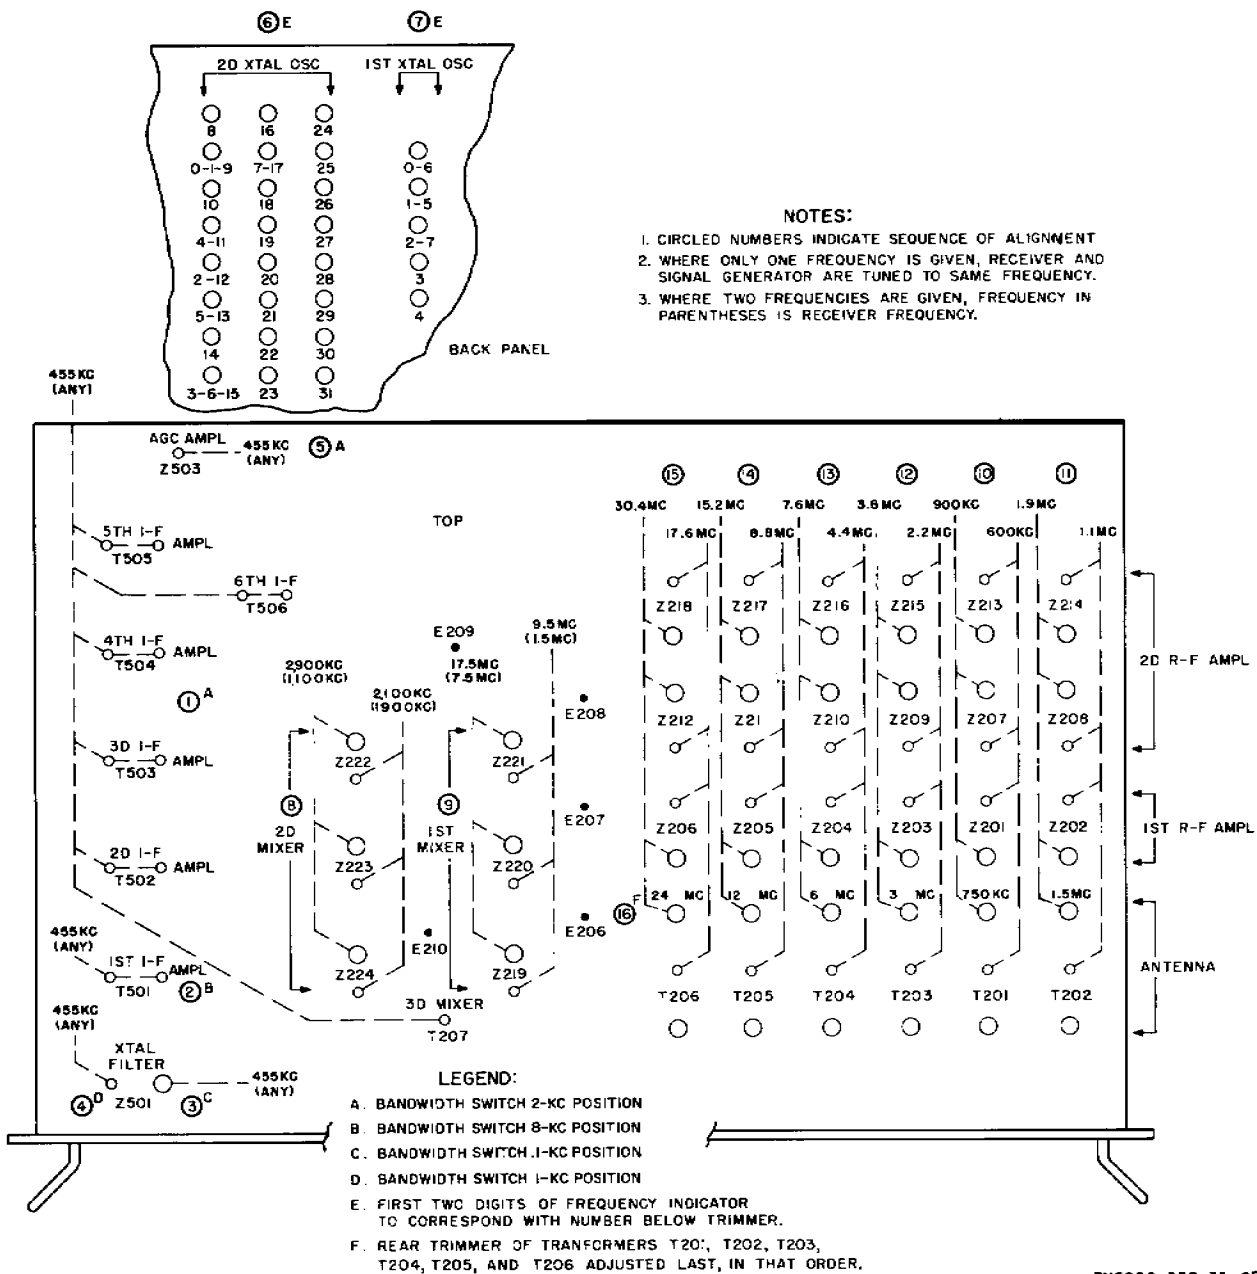

Figure 45. Alignment points.
76. Alignment of 455-Kc If. Stages (fig. 45)
a. Adjust the TS-505(*)/U to measure negative dc volts and connect it between test point E209 (fig. 45) (grid of second mixer V204) and ground.
e. Screw the slug of T402 (fig. 23) out until only one peak reading on the TS-505(*)/U can be obtained, while turning trimmer capacitor 31 (fig. 45 and 46) throughout its entire range.
79. Alignment of Second Variable If. Stage (fig 45)